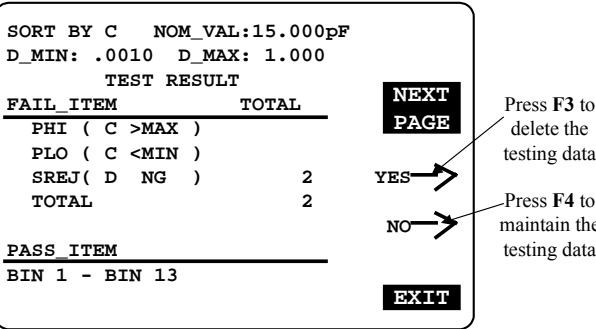

Figure 8-26
- Press F3 or F4 key to select delete or non-delete test result (Figure8-26).